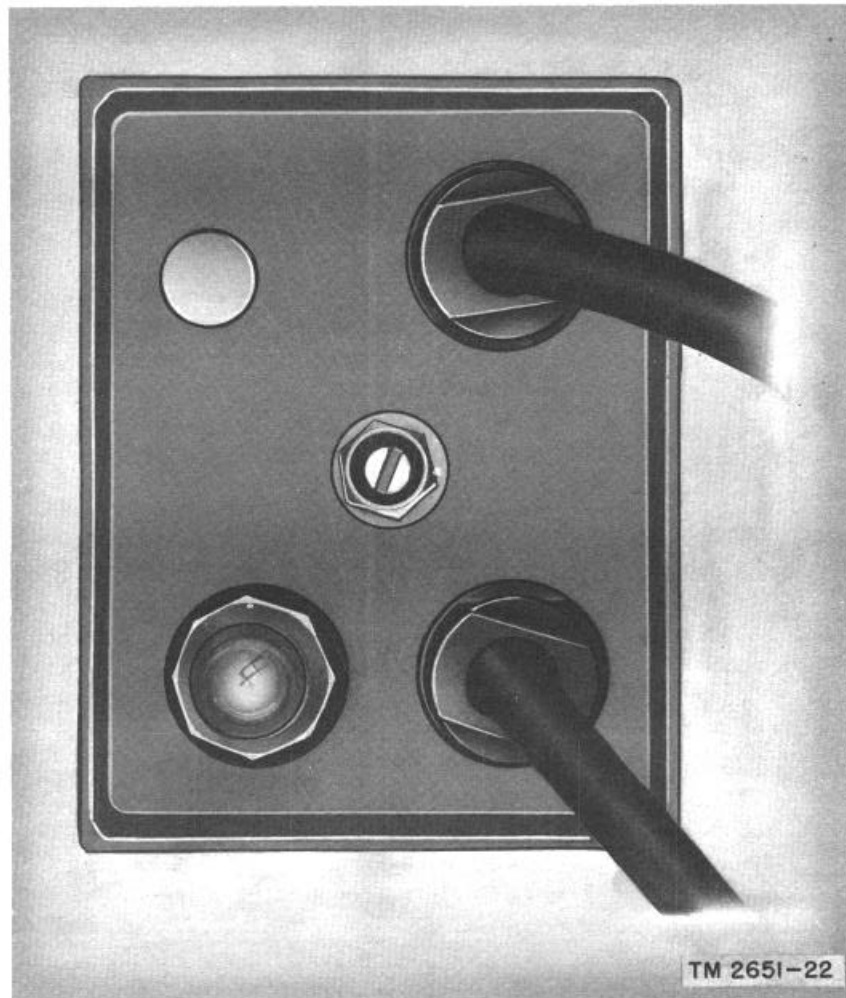

Figure 23. Tuner TN-174/GRA-4, front view.
e. *Tuning Unit.* Tuner TN-174/GRA-4 (fig. 23) is used with slanting wire antennas (fig. 6). To connect the tuning unit, proceed as follows (refer to a above):
- (1) Attach the tuner lead-in wire to the antenna wire termination.
- (2) Attach the connecting wire from the transmitter or receiver to the other tuner lead-in wire.